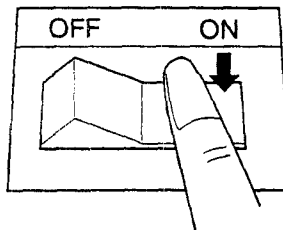

Fig.6
- 1 To turn on the vacuum cleaner, touch the switch on the appliance to the "ON" position. (Fig. 6)